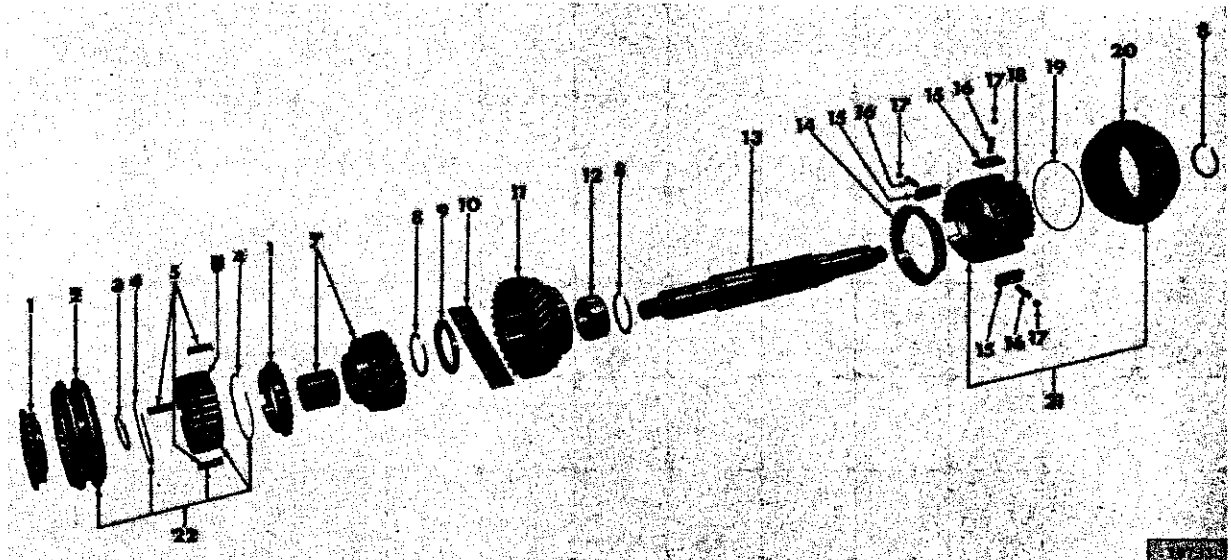

FIG. J1-3—T-98 FOUR-SPEED TRANSMISSION MAIN SHAFT
Note: The models T-98 and T-18 four-speed transmission are similar in design with exception of the second speed gear-to-mainshaft arrangement. In the model T-18 transmission, the second speed gear is a slide fit on the mainshaft, whereas in the model T-98 transmission roller bearings and a spacer are required in this area. Refer to Figs. J1-3 and J1-4.
u. On the T-98 transmission remove the snap rings holding the thrust washer, bearing rollers, second-speed gear, and spacer on the mainshaft. Slide these components off the shaft. Refer to Fig. J1-3.